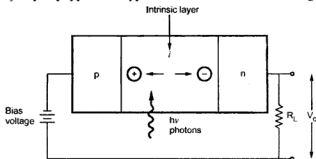

Fig. 3.2.2 PIN photodiode
- PIN diode consists of an intrinsic semiconductor sandwiched between two heavily doped p-type and n-type semiconductors as shown in Fig. 3.2.2.